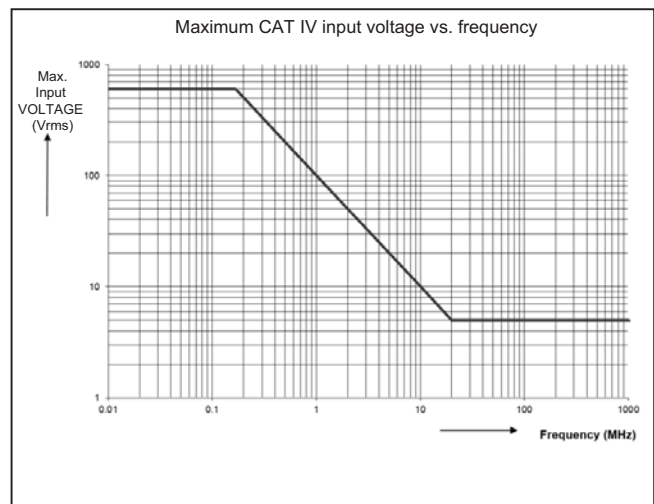

Figure 2. Safe Handling: Max. Voltage Between Test Tool Reference and Earth Ground
- With Banana-to BNC Adapter BB120 600 Vrms for derating, see Figure 2.